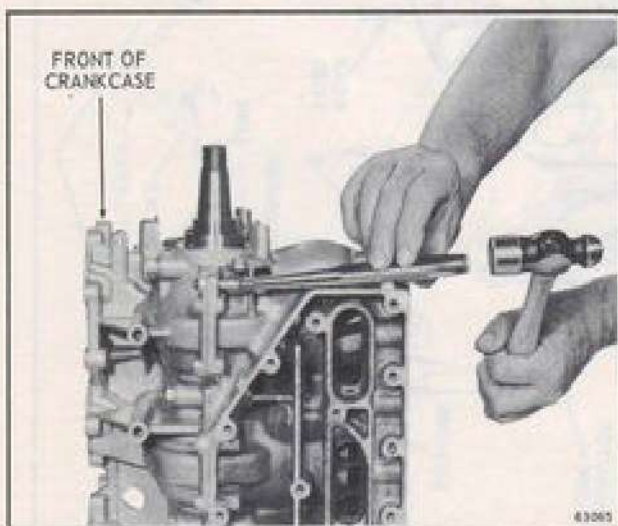
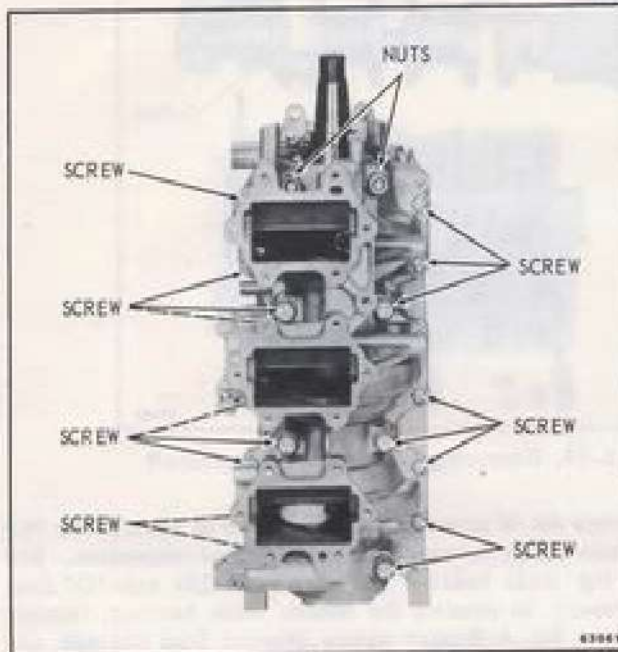

Figure 5-14. Driving Out Taper Pin
Figure 5-16. Crankcase
c. Drive out taper pin from back to front of crankcase. See Figure 5-14. Remove eight small and four large hex head screws and nuts attaching crankcase to cylinder block. See Figure 5-16.